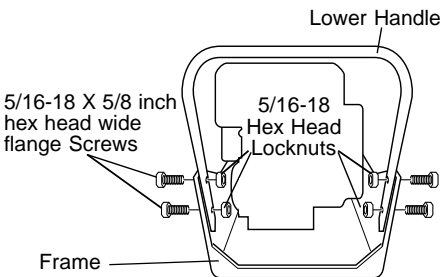

FIG. 2-ASSY
- Place lower handle inside the Edger/Trimmer frame as shown in **Fig. 2-ASSY** and secure in place with four 5/16-18x5/8 hex head wide flange screws and four 5/16-18 hex head locknuts found in parts bag. Hold back on the lower handle as you tighten the screws. Locknuts should be on the inside of the frame as shown in **Fig. 2-ASSY**.